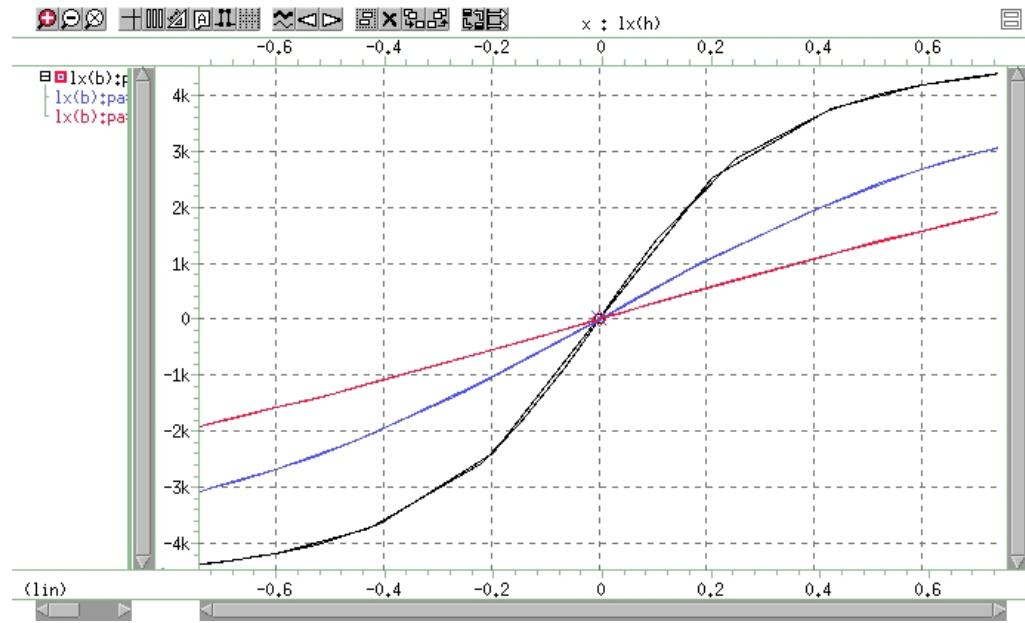

Figure 5 Anhysteretic  $b$ - $h$  Curve Variation: Slope and ALPHA Increase
- Figure 5 on page 42 shows b-h curves for three values of `ALPHA`.